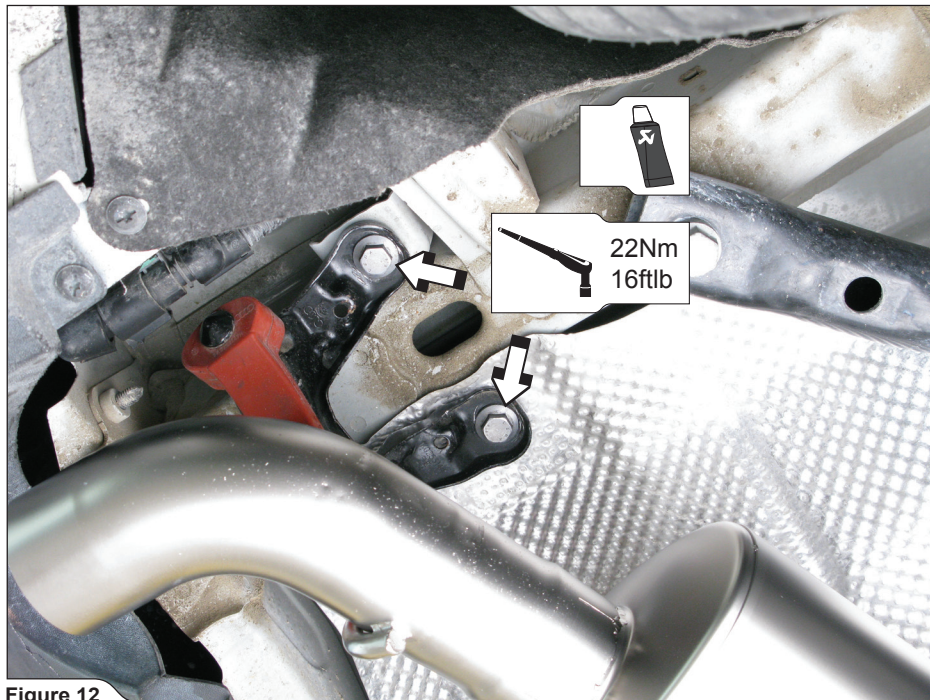

Figure 12
5. **For Slip-On and optional Link-Pipe:** tighten the right side stock rubber bracket onto the vehicle (Figure 12).